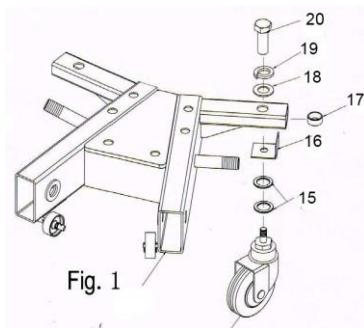

Fig. 1
Attach the 2 caster wheels (10) to the base (9) using nuts (20), lock washers (19), flat washers (18), spacers (17), wheel brackets (16) and flat washers (15), as shown in figure 1.